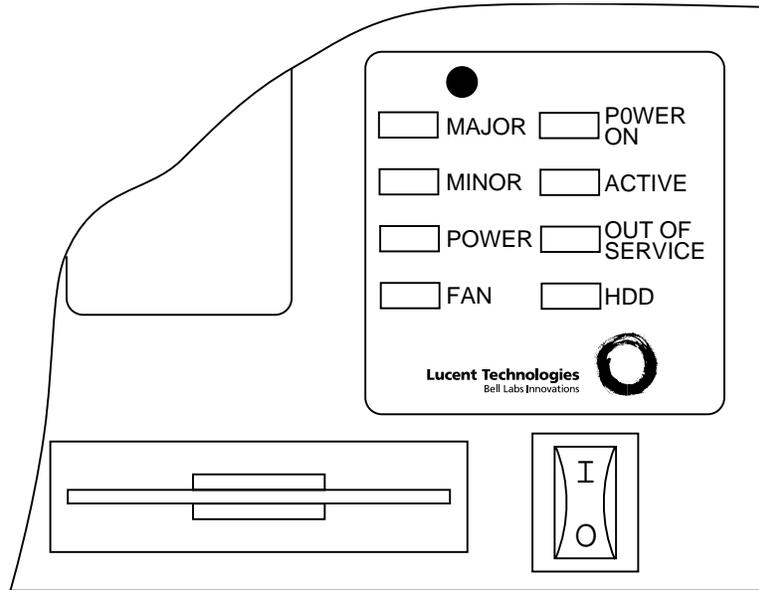

Figure 22. CDSU-II Control Panel
- CDSU-II Control Panel (Figure 22)